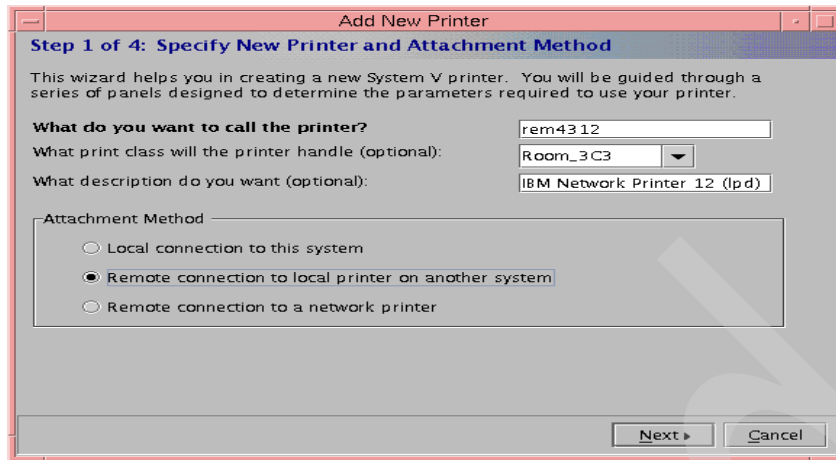

Figure 14. Adding an LPD printer (step 1 of 4)
1. Step 1 of 4: Specify New Printer and Attachment Method (see Figure 14 on page 107)